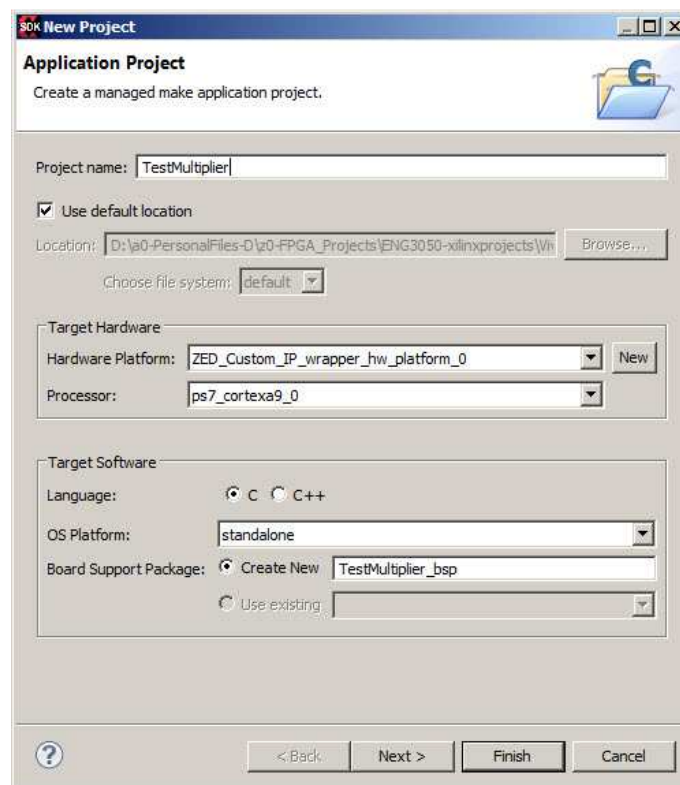

Figure 44: SDK Application Project
3. In the Project Name field, **type “TestMultiplier”, and click “Next” (Figure 44).**